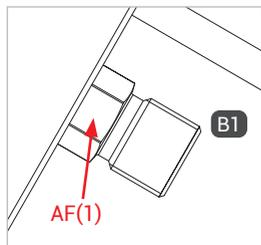

Figure 2
- ▶ When mounting the filling hose, hold an open-ended wrench against the wrench flat AF(1) (Figure 2).
- ▶ Screw the media inlet 'B1' pressure-tight onto the connection port of the filling hose (Figure 2). For the tightening torque, please refer to the table below.